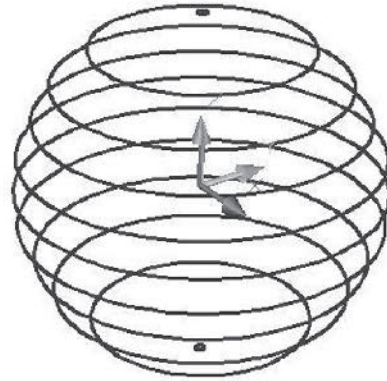

Fig. 40-7
2. Create the 3D representation on a globe shown in Fig. 40-7. The center point of the globe is the origin  $(0,0,0)$ . Use the **ELEVATION** command and the data in Table 40-1 to create the series of 2D circles. The center of the circle at each elevation is located at  $0,0$ . Save the drawing as **ch40-globe.dwg**.